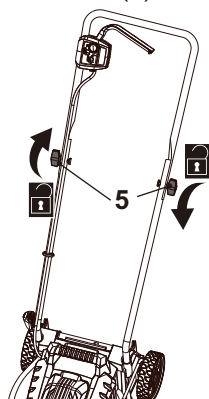

Fig. 14
1. Loosen the knobs (5) anti-clockwise but do not remove them (Fig.14, step 1).